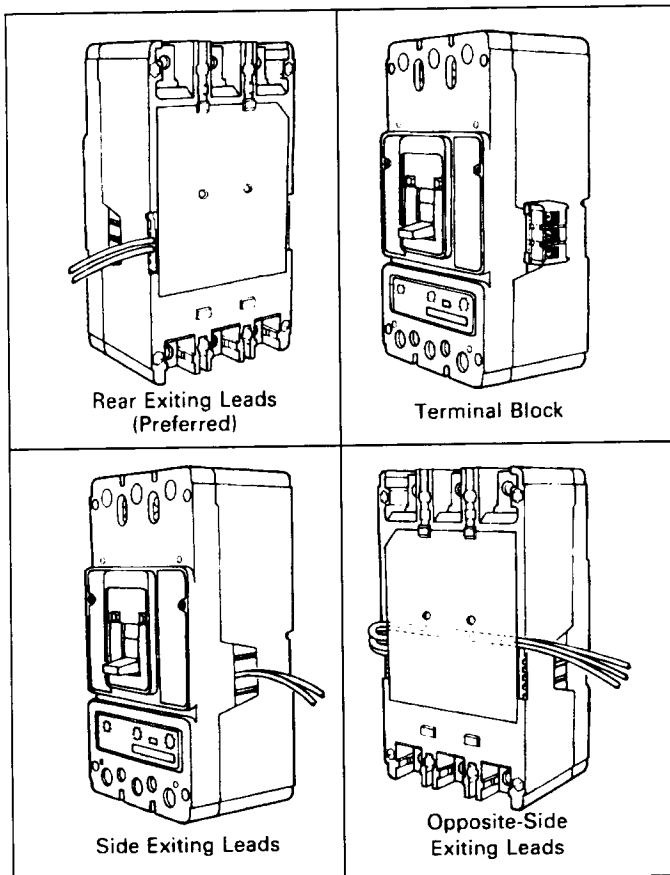

Fig. 2-2. Accessory Wiring Options
- 2-4. Route wiring to meet installation requirements. (Fig. 2-2.)